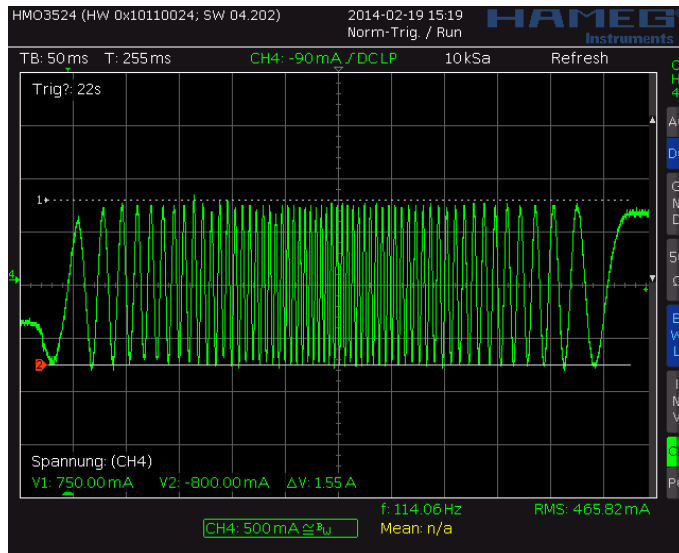
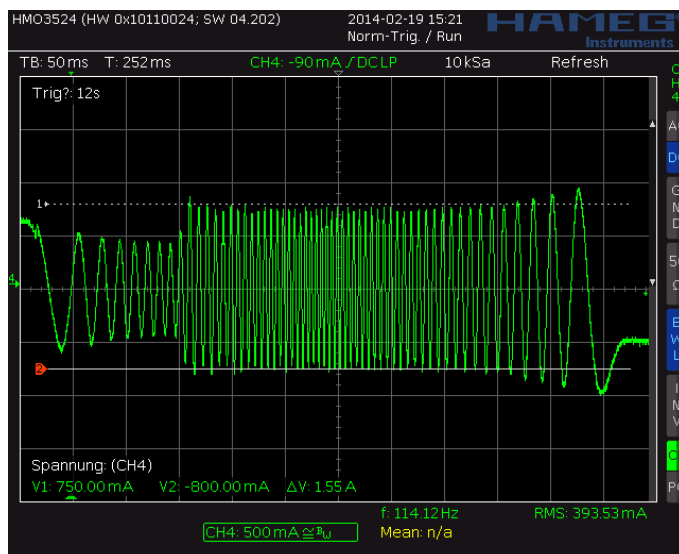
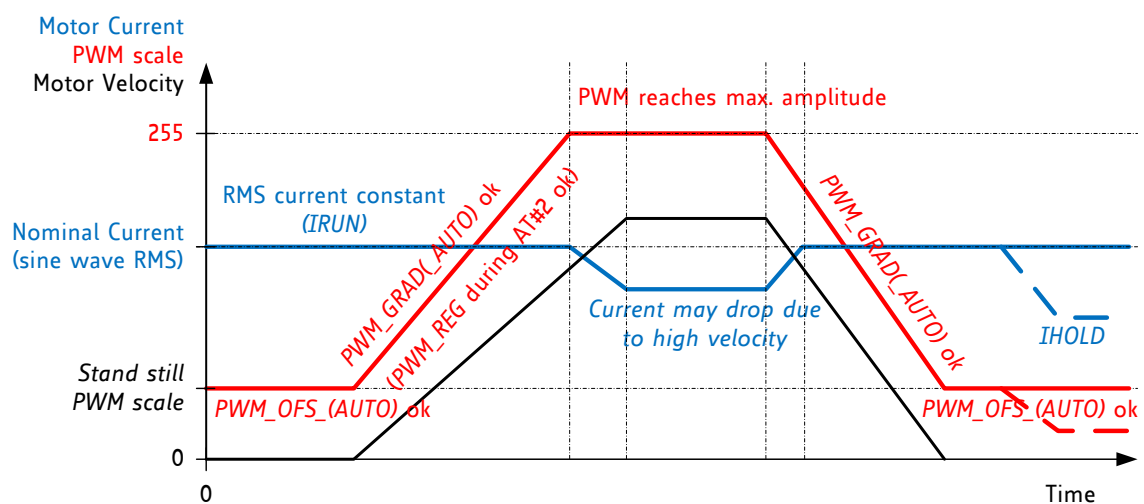

Figure 6.3 Scope shot: good setting for PWM_REG
Figure 6.4 Scope shot: too small setting for PWM_REG during AT#2
Figure 6.5 Successfully determined PWM_GRAD(AUTO) and PWM_OFs(AUTO)
In StealthChop voltage PWM mode, the autoscaling function (*pwm_autoscale* = 1, *pwm_autograd* = 1) regulates the motor current to the desired current setting. Automatic scaling is used as part of the automatic tuning process (AT), and for subsequent tracking of changes within the motor parameters. The driver measures the motor current during the chopper on time and uses a proportional regulator to regulate *PWM_SCALE_AUTO* in order match the motor current to the target current. *PWM_REG* is the proportionality coefficient for this regulator. Basically, the proportionality coefficient should be as small as possible to get a stable and soft regulation behavior, but it must be large enough to allow the driver to quickly react to changes caused by variation of parameters (e.g., change of mechanical load). During initial tuning step AT#2, *PWM_REG* also compensates for the change of motor velocity. Therefore, a high acceleration during AT#2 will require a higher setting of *PWM_REG*. With careful selection of homing velocity and acceleration, a minimum setting of the regulation gradient often is sufficient (*PWM_REG*=1). *PWM_REG* setting should be optimized for the fastest required acceleration and deceleration ramp (compare Figure 6.3 and Figure 6.4). The quality of the setting *PWM_REG* in phase AT#2 and the finished automatic tuning procedure (or non-automatic settings for *PWM_OFS* and *PWM_GRAD*) can be examined when monitoring motor current during an acceleration phase Figure 6.5.